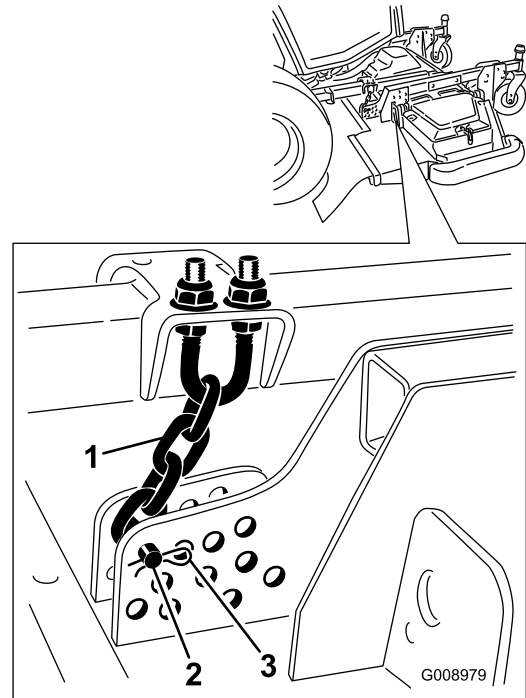

Figure 134
4. Remove the hairpin cotter and clevis pin securing the height-of-cut chains to the rear of the cutting unit (Figure 134).